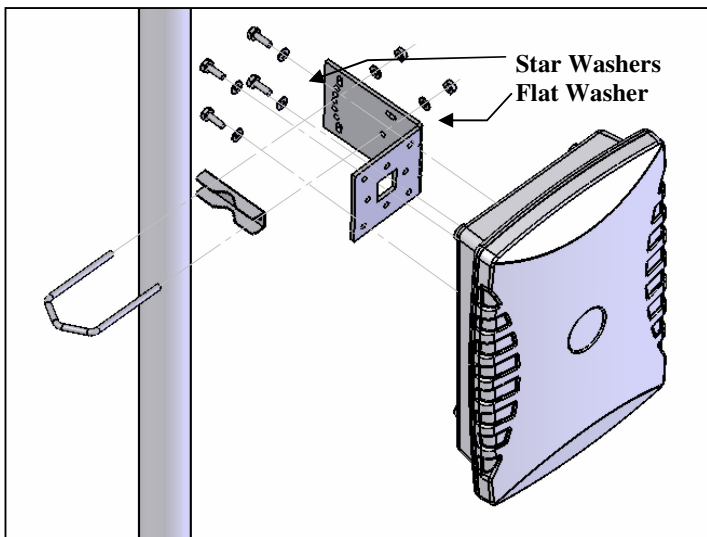

Figure 8. Mast mounting
2. Attach the L bracket to the antenna by means of the four M6 x 16mm bolts provided. The figure 8 illustrates this for vertical polarisation.
3. Attach the enclosure to a mast (diameter 40-50mm) using the Econo-bracket assembly as shown in figure 8.